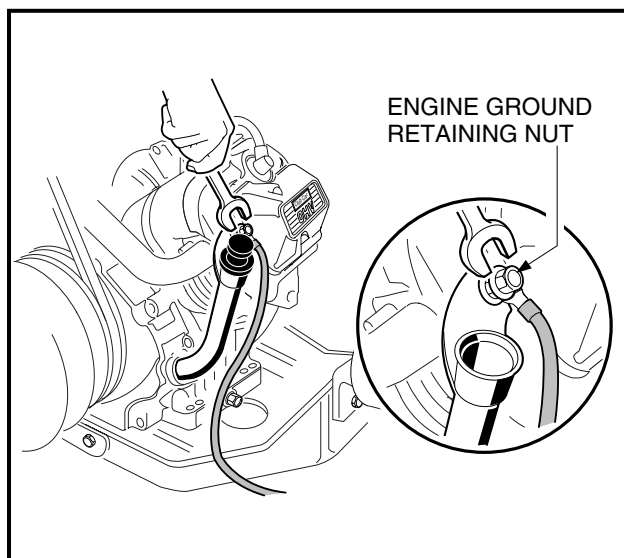

Figure 16-16 Engine Ground Wire
- 5.8. Disconnect the engine ground wire from the oil filler tube mounting bracket (**Figure 16-16, Page 16-9**).